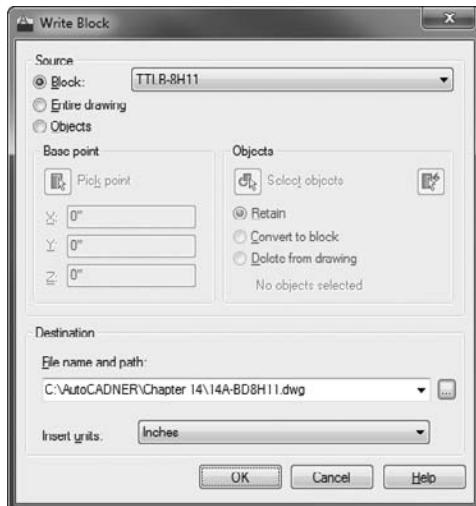

FIGURE 14.4 The Write Block dialog box
- 13.** Enter **WBLOCK** at the command line to open the Write Block dialog box, shown in Figure 14.4. Choose Block as the Source and select the TTLB-8H11 block from the drop-down list.
Verify that your Write Block dialog box looks like Figure 14.4 and click OK to finish the command.